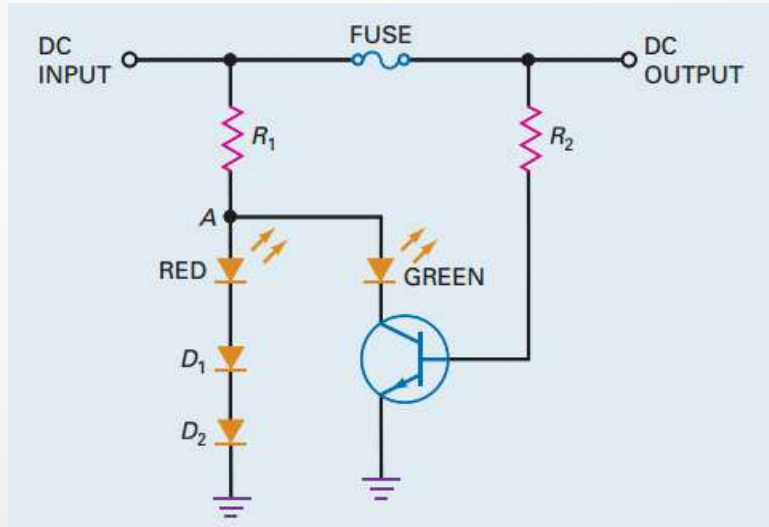

Fig. 4.10. Base bias for BJT
4.2. Identify the application of the Base Biased BJT circuit shown in Fig. 4.10.